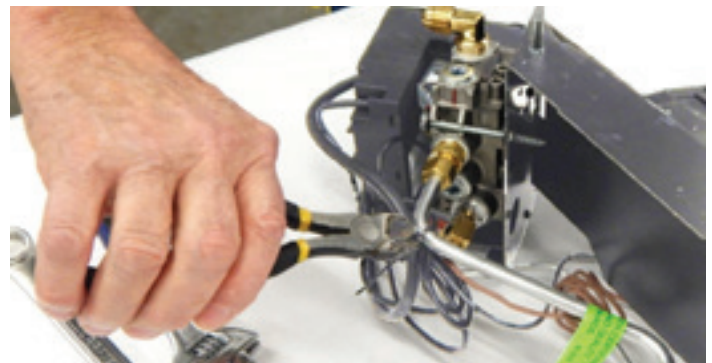

Figure 3
4. Remove burner from fireplace and set on a suitable work surface. Use the cutters to cut tie wrap. See Figure 3.